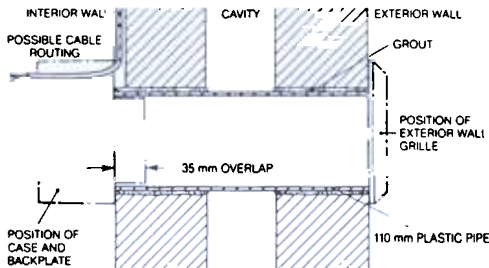

Fig. 3
**5.4** Install the electricity supply cables (see Section 4 and Fig 3) allowing 250 mm to protrude for making connections within the case.